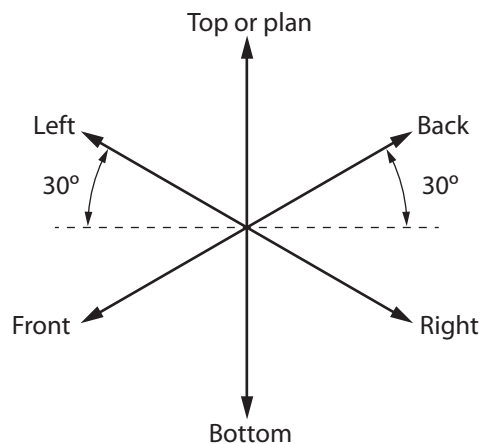

Figure 9 — Step 1: Isometric guide for front-right view
Draw a small star-shaped axis on the bottom corner of your grid paper. The sloping axes should be drawn at a 30° degree angle from the horizontal grid line. The vertical axis of the star indicates height (H) or depth (D), and the two sloping axes indicate the length (L) and the width (W) of the rectangle. The vertical axis can be used as a guide when making lines on your drawing. Notice we have labelled the points on the star in Figure 9. These labels can change depending on the view that you may want when drawing a stationary object. The bottom two horizontal points indicate the view that is being drawn. In this case we would be creating a front-right view.